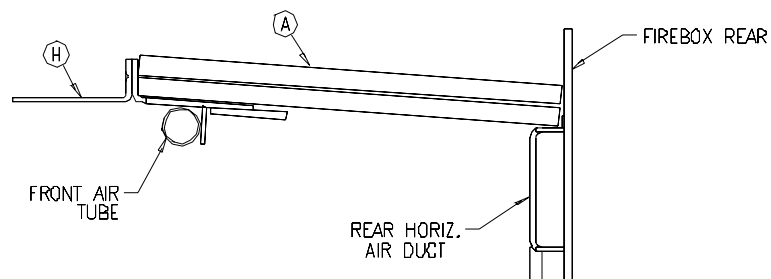

Figure 3.2a
2. Starting from below and behind the front air tube, install the front baffle support/extension (H), ensuring that it fits between the front risers (see fig.3.2A).